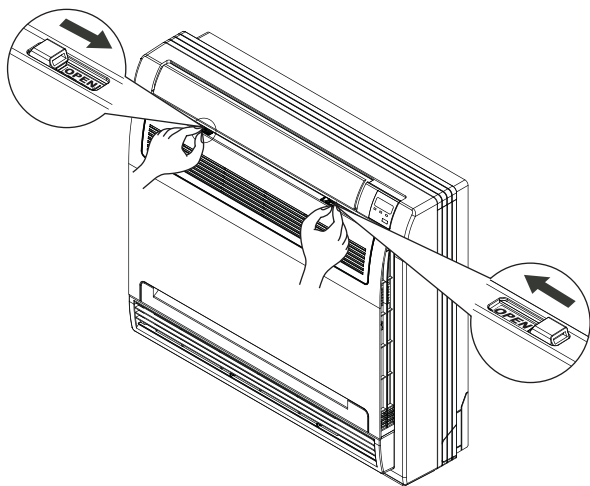

Fig.7-1
- 1 **Open the Front Panel** (Refer to Fig. 7-1).